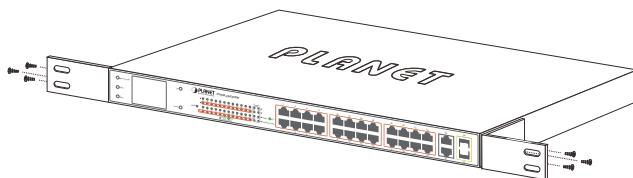

Figure 3-2: Attaching the Brackets to the LCD Switch
Step 2: Attach a rack-mount bracket to each side of the LCD switch with supplied screws attached to the package. Figure 3-2 shows how to attach brackets to one side of the LCD switch.